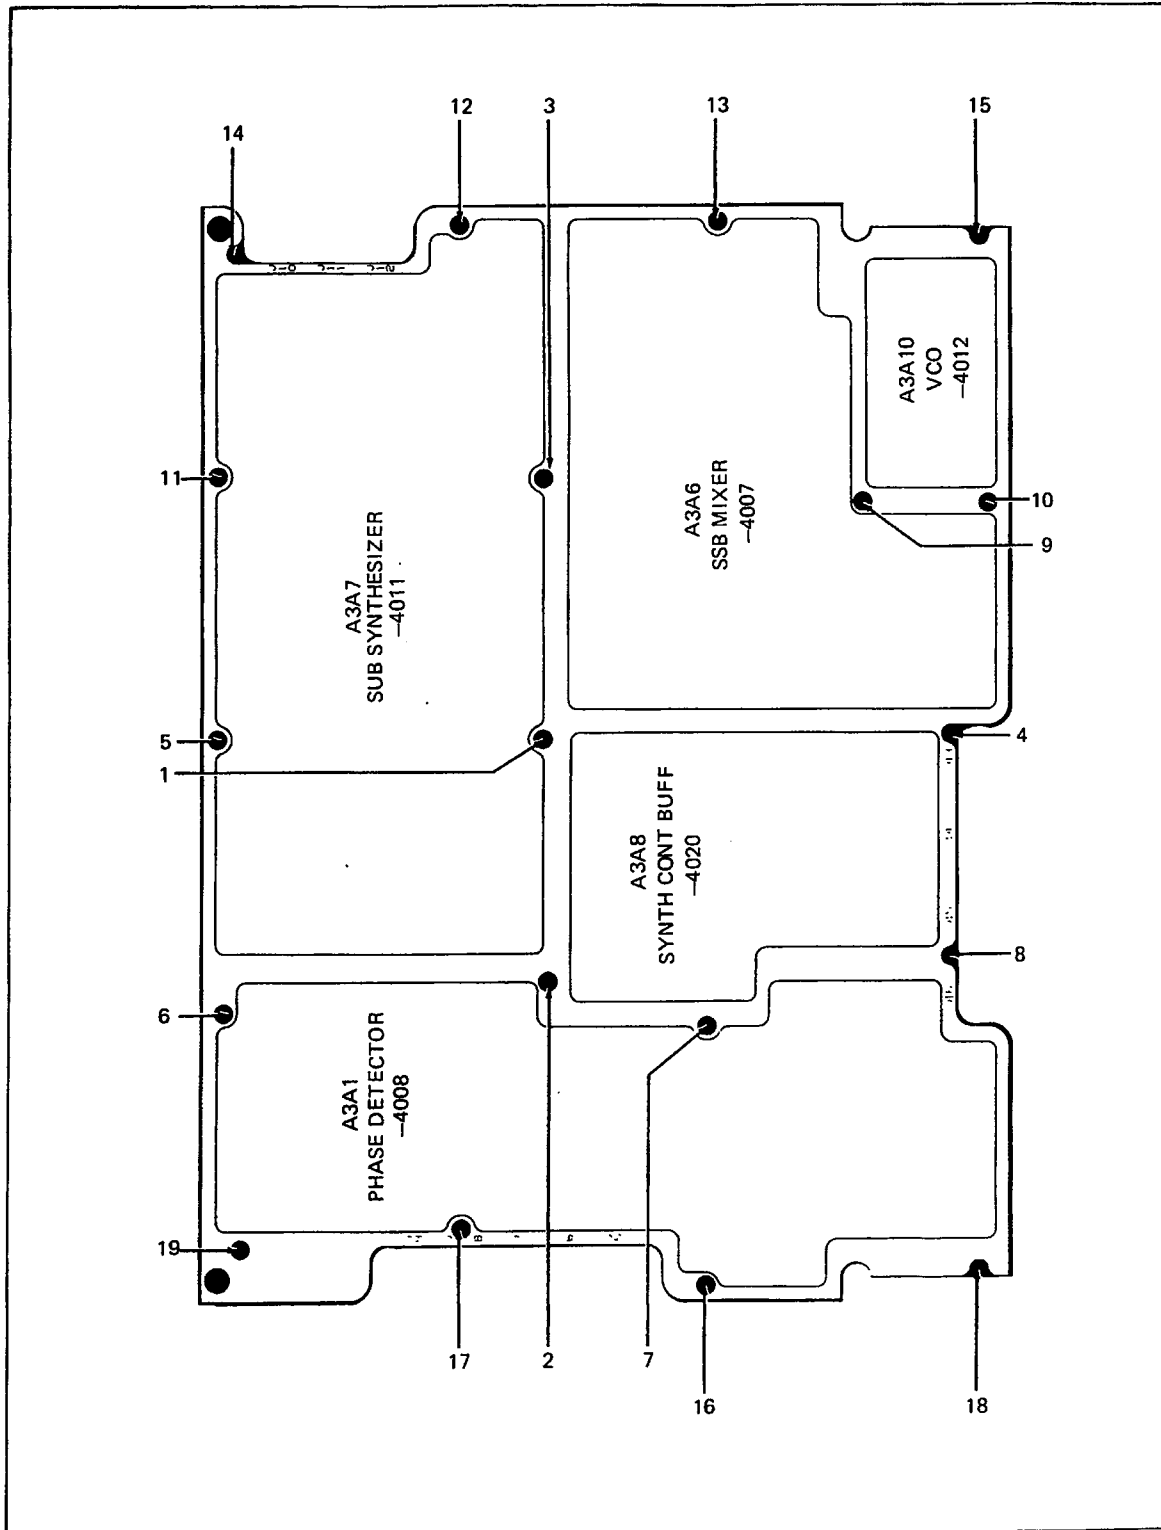

Figure 3-10. Torque Sequence, Bottom Cover of the Synthesizer Module
4. Remove the 19 screws and washers that hold the lower cover of the Synthesizer Module in place (Figure 3-10).
a. Torque all the screws to 3 inch-pounds in the numerical sequence shown in Figure 3-10.
b. Torque all the screws to 7 to 9 inch-pounds in the numerical sequence shown in Figure 3-10. The torque value should be the same for all screws.